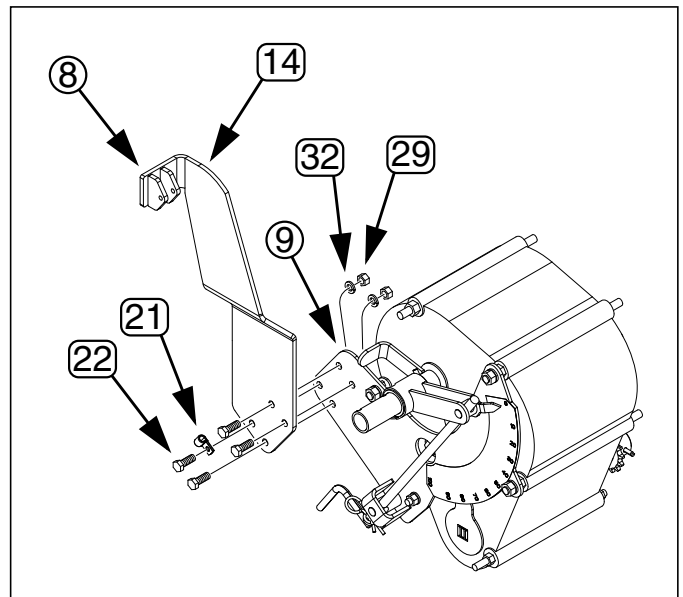

Figure 9
*Refer to Figure 9*
- ①④ 166-318H ACTUATOR MOUNT WELDMENT
- ②① 800-238C .375 WIRING AND TUBE CLIP
- ②② 802-017C HHCS 3/8-16X1 GR5
- ③② 804-013C WASHER LOCK SPRING 3/8 PLT
- ②⑨ 803-014C NUT HEX 3/8-16 PLT